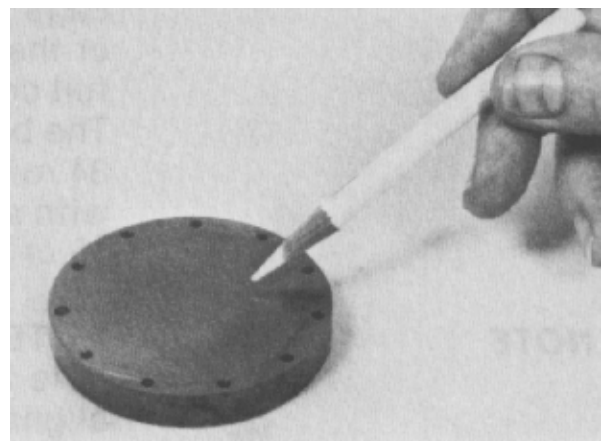

Figure 70
38. The rotor side of the drive plate (Fig. 70) should show the “normal” spiral pattern due to rotor movement.